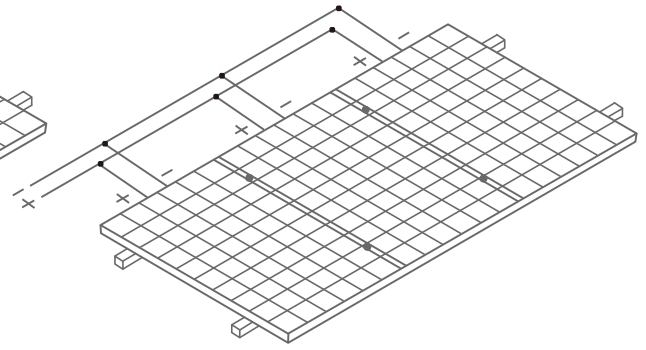

Figure 6 Connection in parallel
- When connected in parallel, the current output is equal to the sum of each string's current (as shown in Figure 6). Fuse is necessary for each module string. Take reference to the local regulation. Recommended maximum parallel Modules configurations: Fuse rating/ (1.25\* short-circuit current).